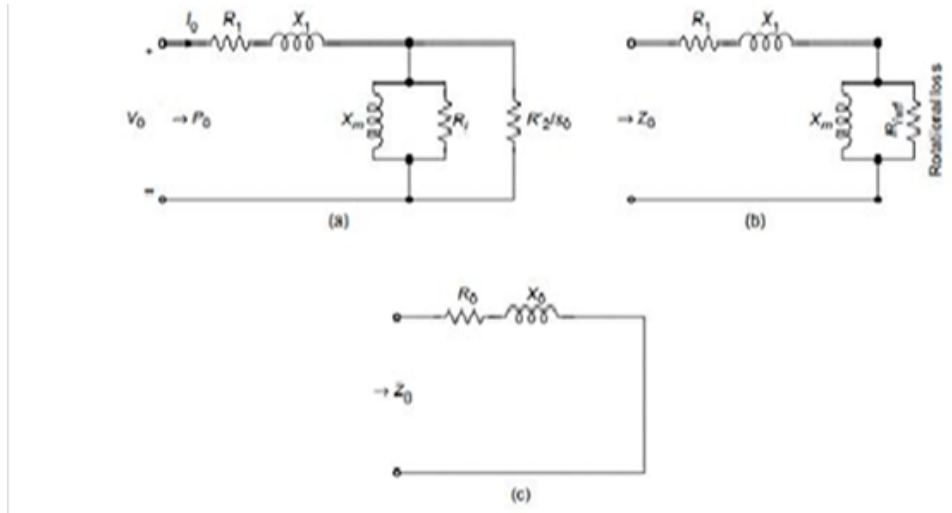

Figure 2: Circuit Model at No Load
The mechanical power developed corresponds to  $P_{wf}$  only and so, as already mentioned above the slip is very low and the output resistance  $R_2/s$  is very large. Also  $R_2/s \gg X_2$  and so  $X_2$  can be ignored. The corresponding no-load circuit model is drawn in Fig. 2(a) wherein  $R_2/s$  appears in parallel to  $R_i$ . By combining the parallel shunt resistances, the final circuit at no-load is as given in Fig. 2(b). Here  $R_{i wf}$  accounts for rotational loss, i.e., core loss and windage and friction loss. Magnitude-wise  $R_{i wf} \gg X_m$ .  $R_1$ , the stator resistance, is found by dc testing of the stator winding and correcting the value to AC operation (at 50 Hz).  $X_1$ , the stator leakage reactance, will be found from the blocked-rotor test which follows. We can then find  $X_m$  and  $R_{i wf}$  from the no-load (NL) test data. By simplification of the circuit of Fig. 2 (b).